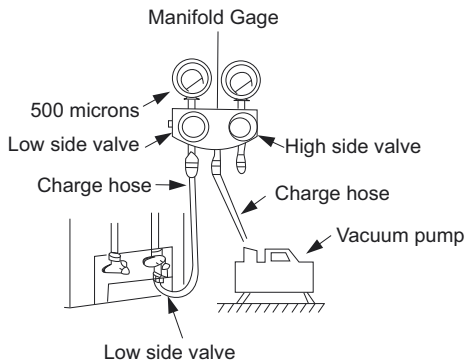

Fig. 19 Manifold
- Fully open the low side of manifold gage (see Fig. 19).